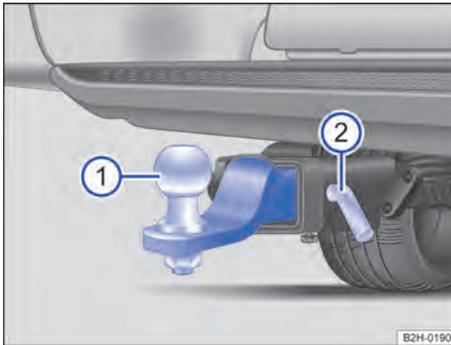

Fig. 147 Under the rear bumper: mount the tow hitch.
- ① Tow hitch.
- ② Locking pin.
3. Remove locking pin → Fig. 147 ② from the housing.
4. Pull the tow-bar → Fig. 147 ① from the housing.